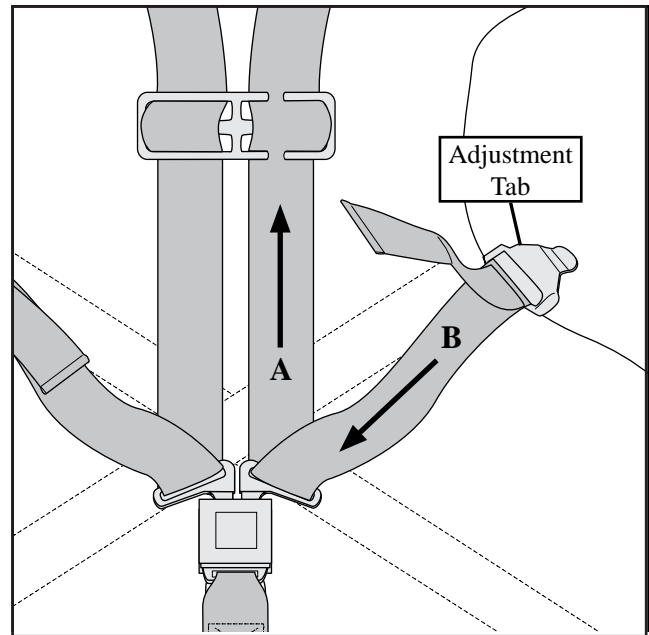

Figure 7 - Loosening the Strap
To loosen the straps, refer to Figures 7 and 8 and use the following procedures:
1. Grasp the adjustment tab (Figure 7) with one hand and pull the torso strap (B) back through the tab with your other hand.
2. Steady the central buckle with one hand and loosen the shoulder strap (A) by pulling it upward with the other hand.